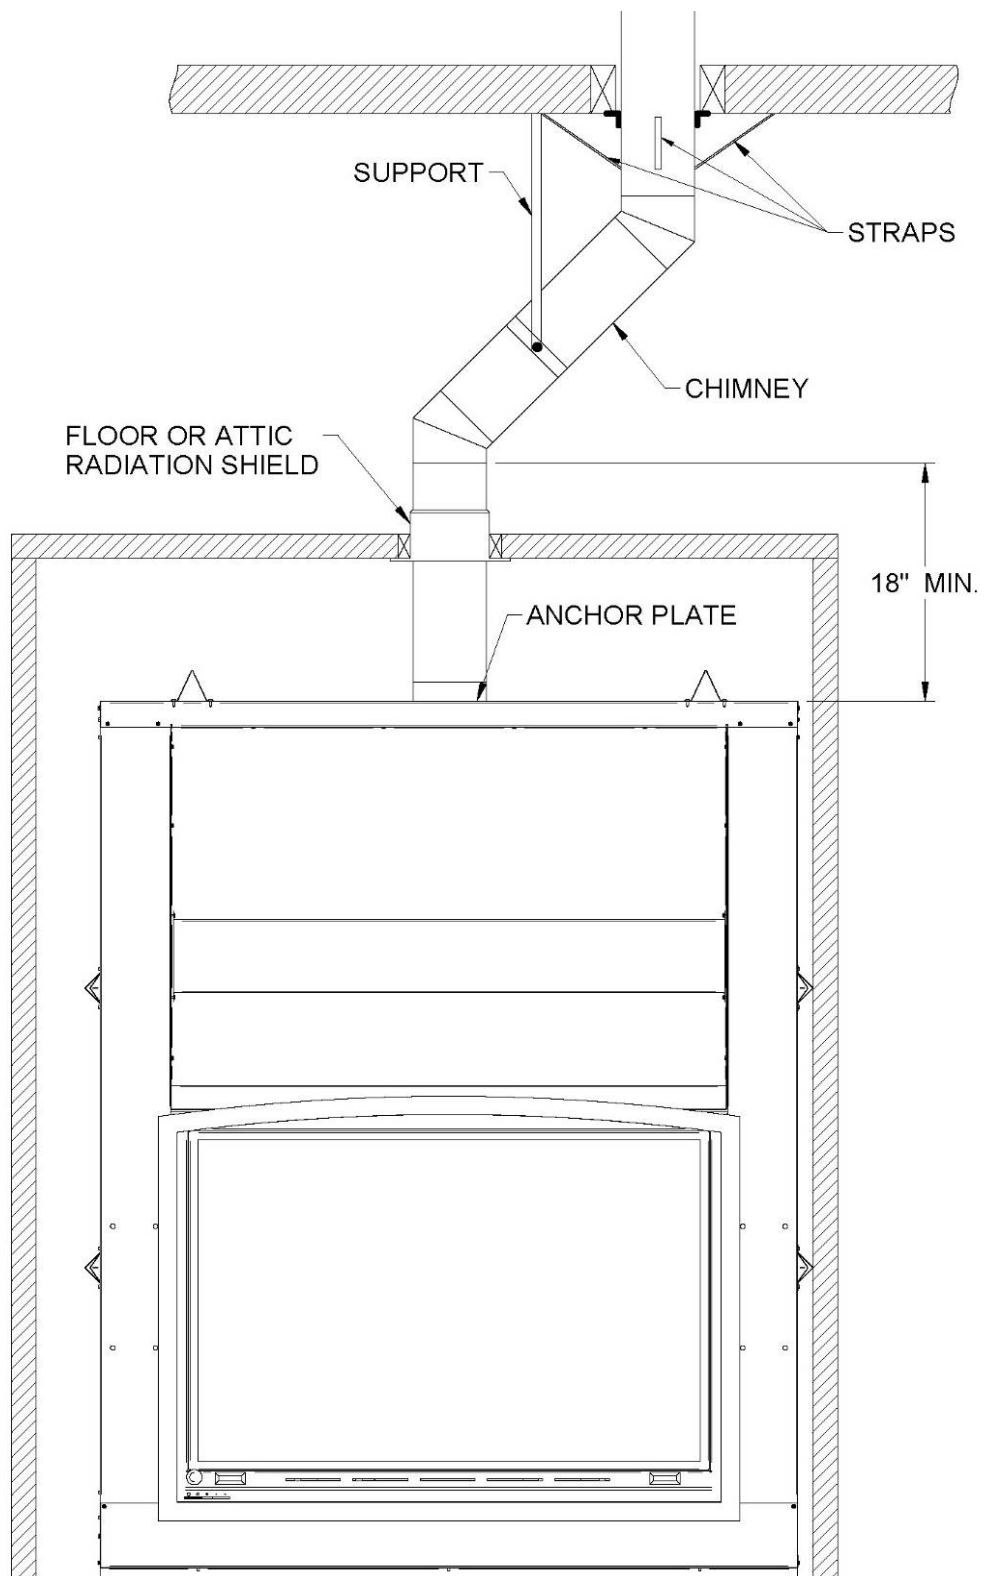

Figure 31
1. There must be a minimum vertical length of 18" starting from the fireplace before putting a deviation/elbow. Install the first elbow; turn it in the required direction. Secure it to the chimney according to the chimney manufacturer's instructions. In many cases, it is recommended to secure connections with three (3) ½" (12 mm) metal screws.
2. Install the necessary chimney lengths to achieve the required offset. Lock the chimney lengths together according to the chimney manufacturer's instructions. In many cases, it is recommended to use three (3) ½" (12 mm) metal screws. If the offset length is made of two (2) chimney lengths or more, many chimney manufacturers may require that you use an offset or roof support halfway up the offset. If penetrating a wall, install a wall radiation shield supplied by the chimney manufacturer (**see Figures 31 and 32**).